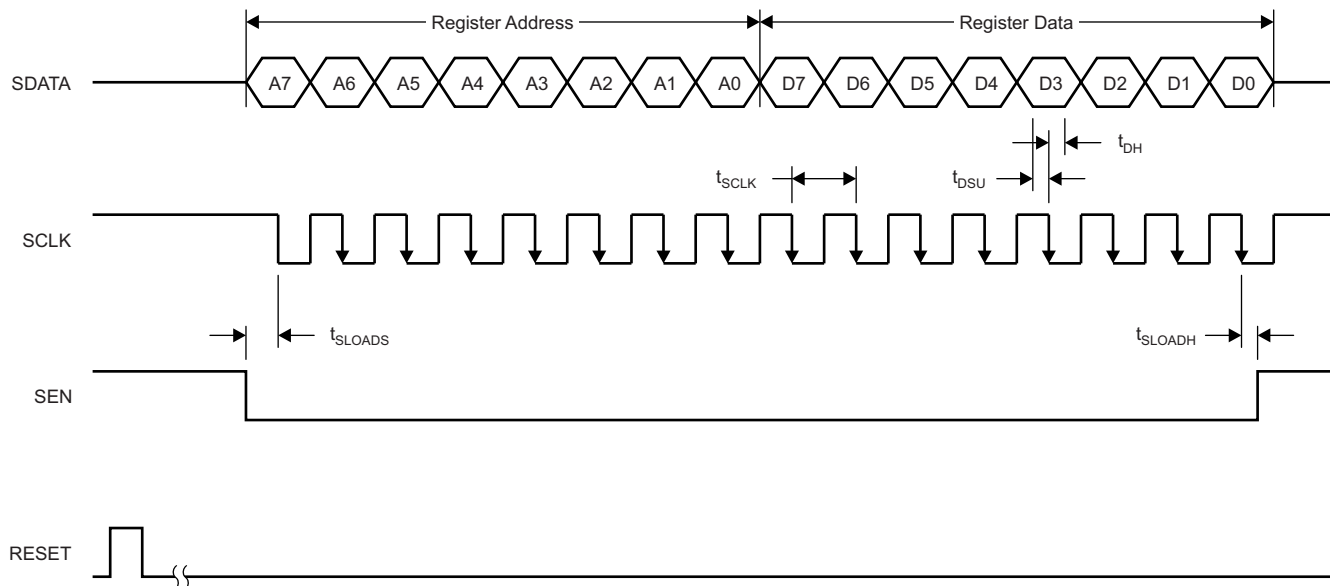

Figure 43. Serial Interface Timing Diagram
1. Either through a hardware reset by applying a high-going pulse on RESET pin (of widths greater than 10 ns), as shown in Figure 43,
Table 9. Timing Characteristics for Figure 43(1)